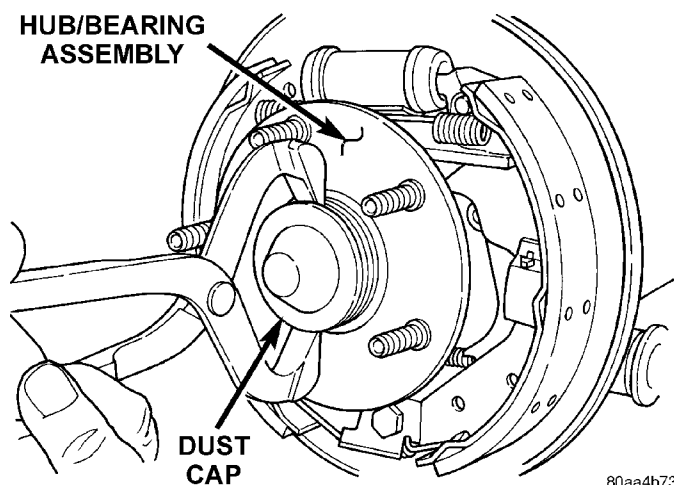

Fig. 90 Hub/ Bearing Dust Cap
(1) Raise vehicle on jackstands or centered on a hoist. See Hoisting in the Lubrication and Maintenance section of this manual.
(2) Remove rear tire and wheel assembly from vehicle.
(3) Remove the dust cap (Fig. 90) from the rear hub/ bearing.